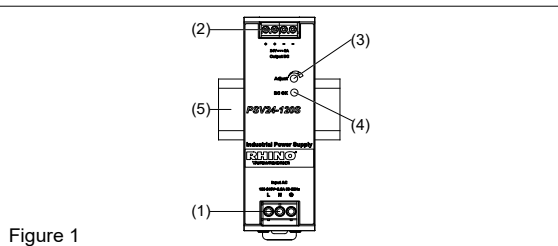
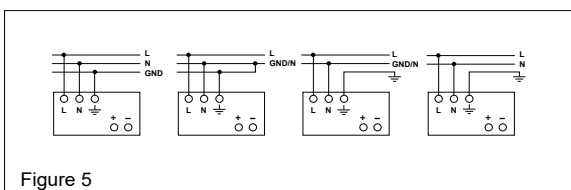

Figure 1
Figure 5
### 5.1. Input connection (Fig. 1, Fig. 5)
Use L, N and GND connections of input terminal connector (see Fig. 1 (1)) to establish the 100-240 VAC connection. Typical connection methods are shown in Figure 5.
### 5.2. Output connection (Fig. 1 (2))
Use the "+" and "-" screw connections to establish the 24VDC connection. The output provides 24VDC. The output voltage can be adjusted from 22 to 28 VDC on the potentiometer. The green LED DC OK displays correct function of the output (Fig. 1 (4)). The device has a short circuit and overload protection and an overvoltage protection limited to 28.8-35.2 VDC.